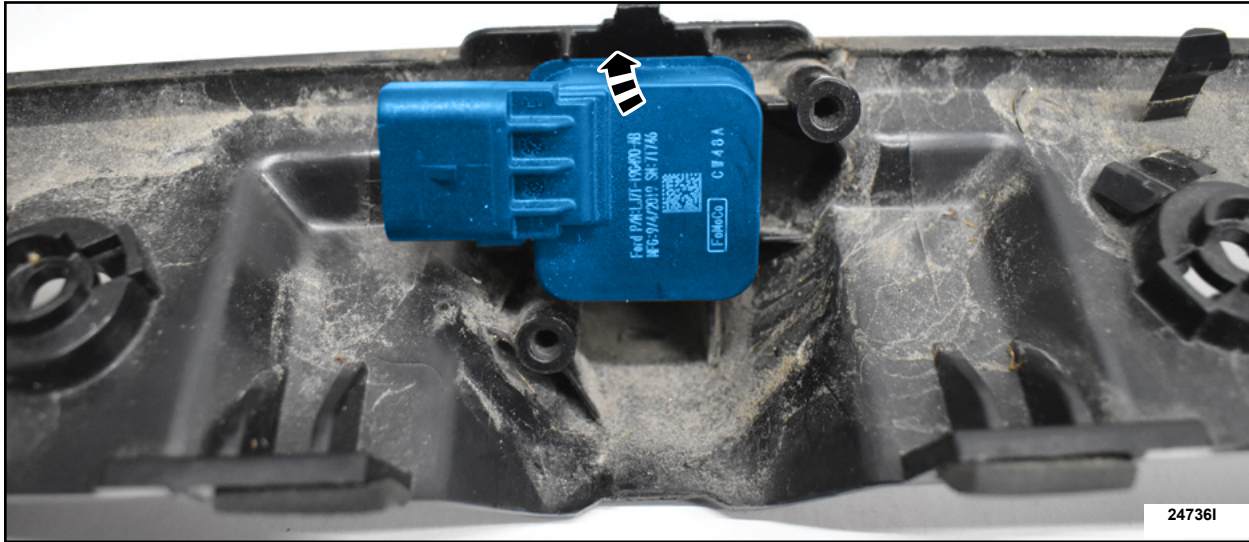

FIGURE 11
10. Remove the rear parking aid camera. See Figure 11.